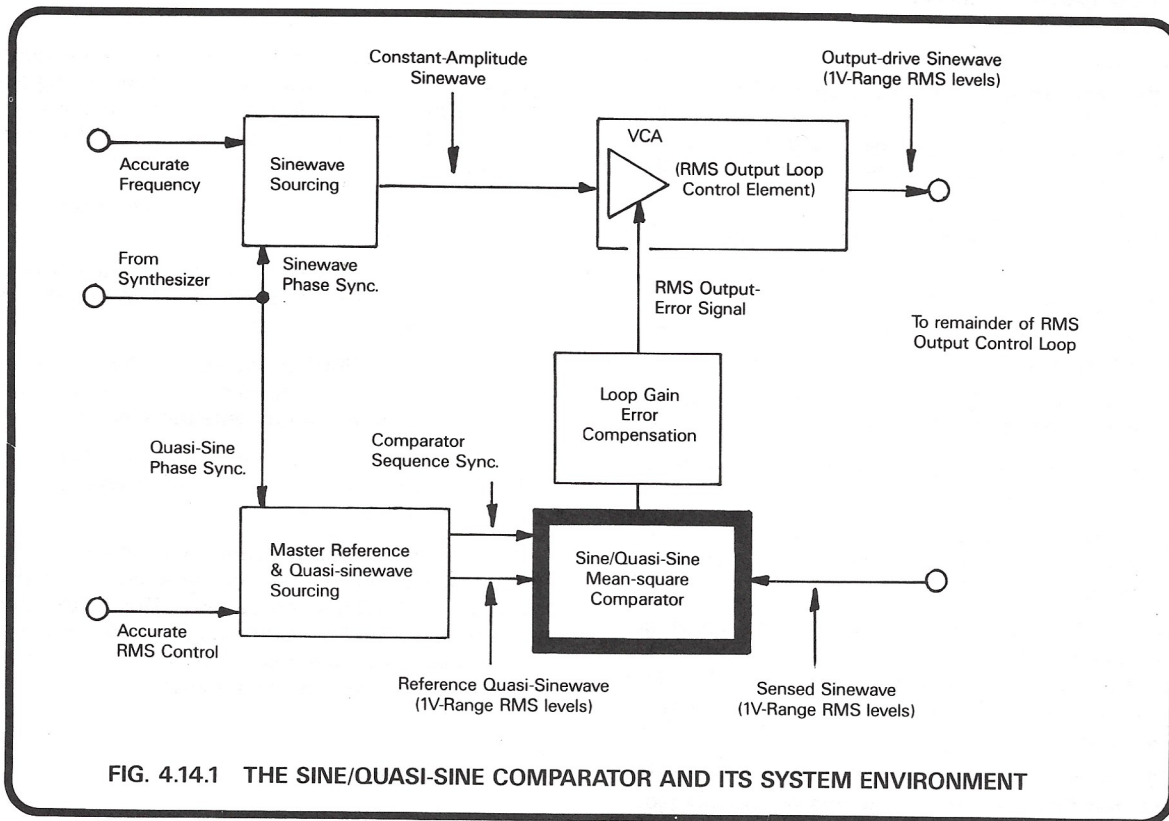

FIG. 4.14.1 THE SINE/QUASI-SINE COMPARATOR AND ITS SYSTEM ENVIRONMENT
4.14.1 Purpose and Environment (Fig. 4.14.1)